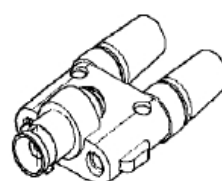

Figure 3 BNC-male-to-dual binding post
- 4) Connects the probe output to BNC-female- to- dual binding post (as shown in Figure 3), and plug into the two inputs of the digital multimeter.